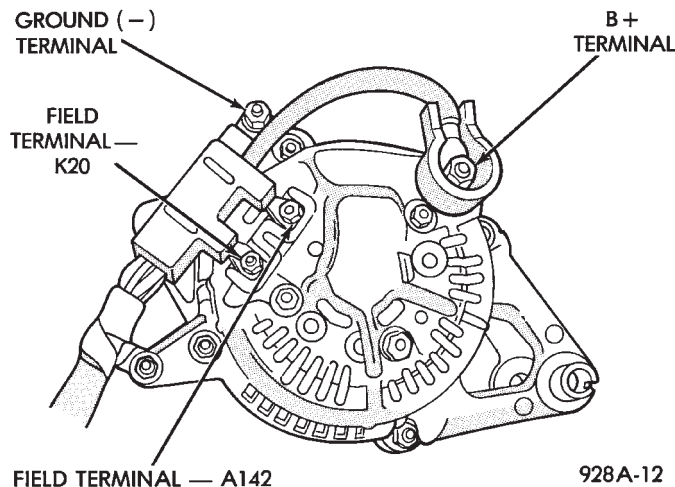
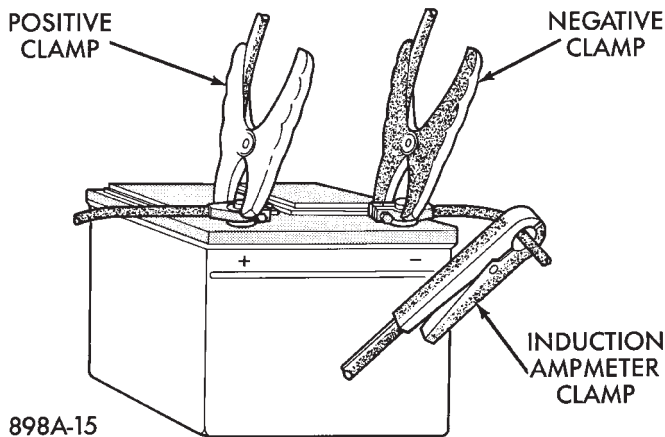

Fig. 1 Alternator Wiring Connections
Fig. 5 Volt/Amp Tester Connections
- (1) Turn the ignition switch OFF.
- (2) Disconnect battery NEGATIVE cable.
- (3) Disconnect the alternator B+ output wire from the alternator output battery terminal (Fig. 1).
- (4) Connect a 0-150 ampere scale (DC) ammeter in series between B+ terminal and output wire (Fig. 1 and 2). Connect positive lead to B+ terminal, and negative lead to output wire.
- (5) Using 0-18 volt scale voltmeter, connect the positive lead to the disconnected (B+) output wire (Fig. 1). Connect the negative lead to positive battery post.
- (6) Remove fresh air hose between Engine Controller and air cleaner if necessary.
- (7) Connect jumper wire between a good ground and K20 circuit terminal at the back of the alternator.
CAUTION: Do not connect the A142 circuit terminal (Fig. 1) to ground the Fusible link will burn.
- (1) Disconnect battery negative cable.
- (2) Disconnect output wire at the B+ terminal (Figs. 1 and 4).
- (3) Connect a 0-150 ampere scale (DC) ammeter in series between the B+ terminal and output wire. Connect Positive lead to B+ terminal and negative lead to output wire.
(4) Using 0-18 voltmeter, connect positive lead to B+ terminal (Figs. 1 and 4). Connect negative lead to a good ground.
(5) Connect an engine tachometer and connect battery negative cable.
(6) Connect a volt/amp tester equipped with a variable carbon pile rheostat between battery terminals (Fig. 5). Be sure carbon pile is in OFF position before connecting leads.
(7) Remove fresh air hose between Engine Controller computer and air cleaner if necessary.
(8) Full field the alternator. Connect a jumper wire between a good ground and K20 circuit terminal at the back of the alternator (Figs. 1 and 4).
CAUTION: Do not connect the A142 circuit terminal (Fig. 1) to ground. Fusible link will burn.